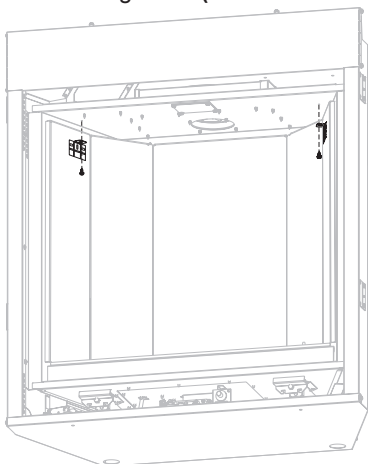

Figure 8
5. Remove the two screws securing the liner brackets to the firebox as shown in Figure 8. **(If liner is installed)**
21. Replace liner and bracket if removed in steps 5 and 6. **See Figures 8 & 9.**